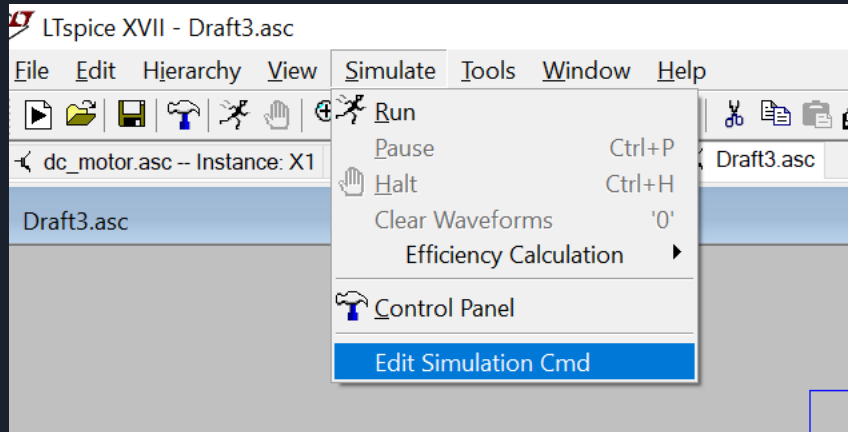

Figure 7.
- Now, we will add simulation. Click on the **Simulate** tab and then select **Edit Simulation Cmd**, as shown in figure 7.